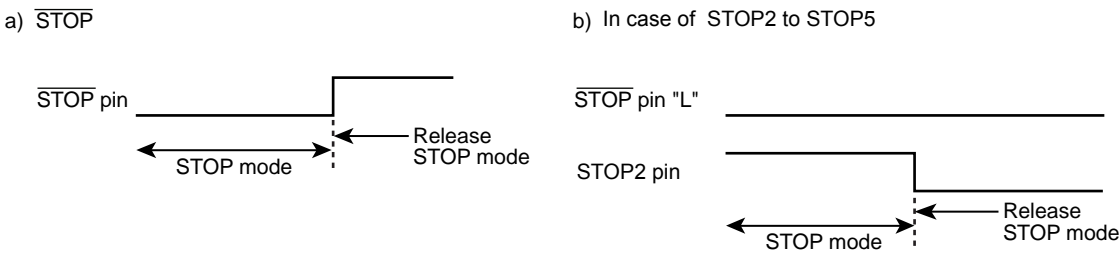

Figure 14-3 Priority of $\overline{\text{STOP}}$ pin and STOP2 to STOP5 pins
- Note 6: When the STOP mode is released by STOP2 to STOP5 pins, the level of $\overline{\text{STOP}}$ pin should hold "L" level (Figure 14-3).